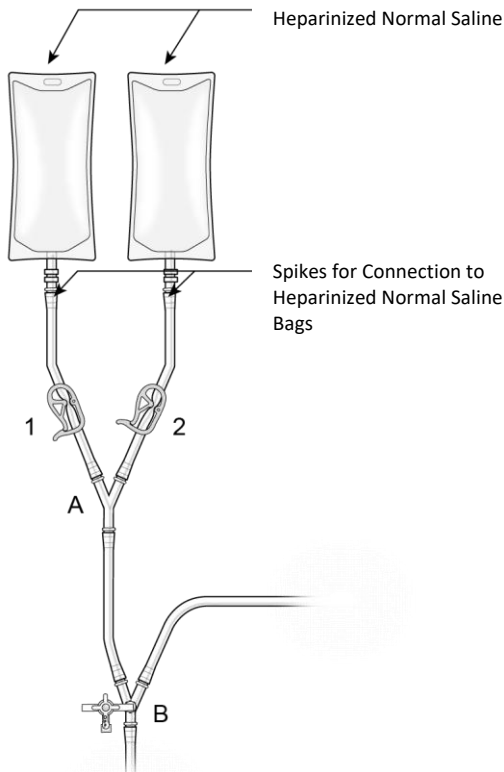

Figure 13
- (l) Hang two bags of the heparinized sterile normal saline and connect to circuit by using the spikes, as shown in Figure 13, to allow for gravity priming of circuit components.